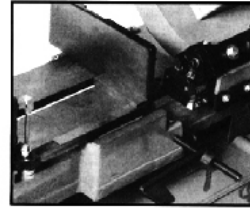

Fig. 5
2. Place a machinist's square as pictured in figure 5. Square should lie along entire length of vise and blade without a gap.